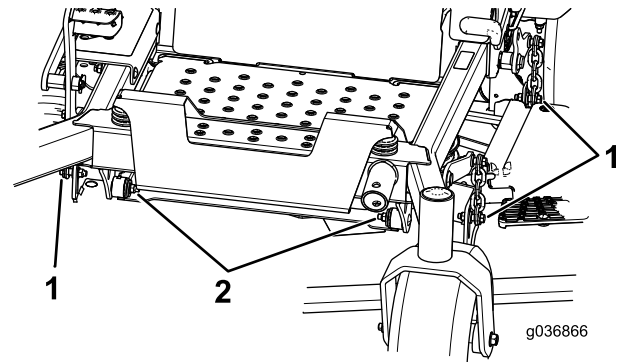

Figure 101
7. Remove and retain the bolts and nuts on both sides of the machine (Figure 101).